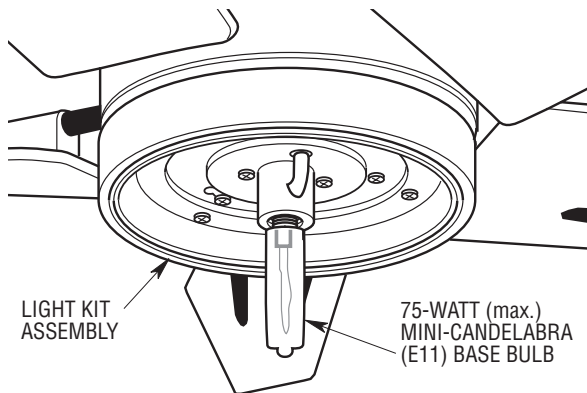

Figure 16
1. Screw the 75-watt (maximum) mini-candelabra (E11) base bulb (supplied) into the light kit socket (Figure 16). Do not touch the glass bulb; use the porcelain base to screw in the bulb, or wear gloves.